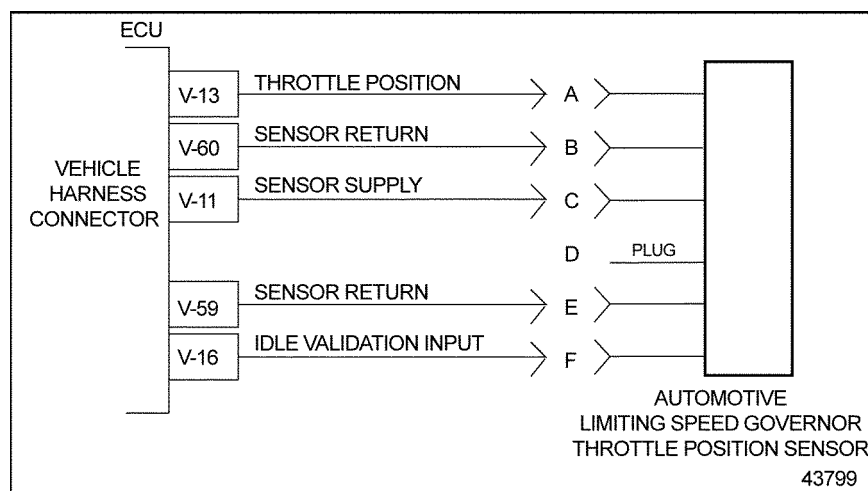

Figure 26-3 Throttle Position Sensor
1. Check terminals at the TPS/AP Sensor connector (both sensor and harness side) for bent, corroded and unseated pins or sockets. See Figure 26-3.